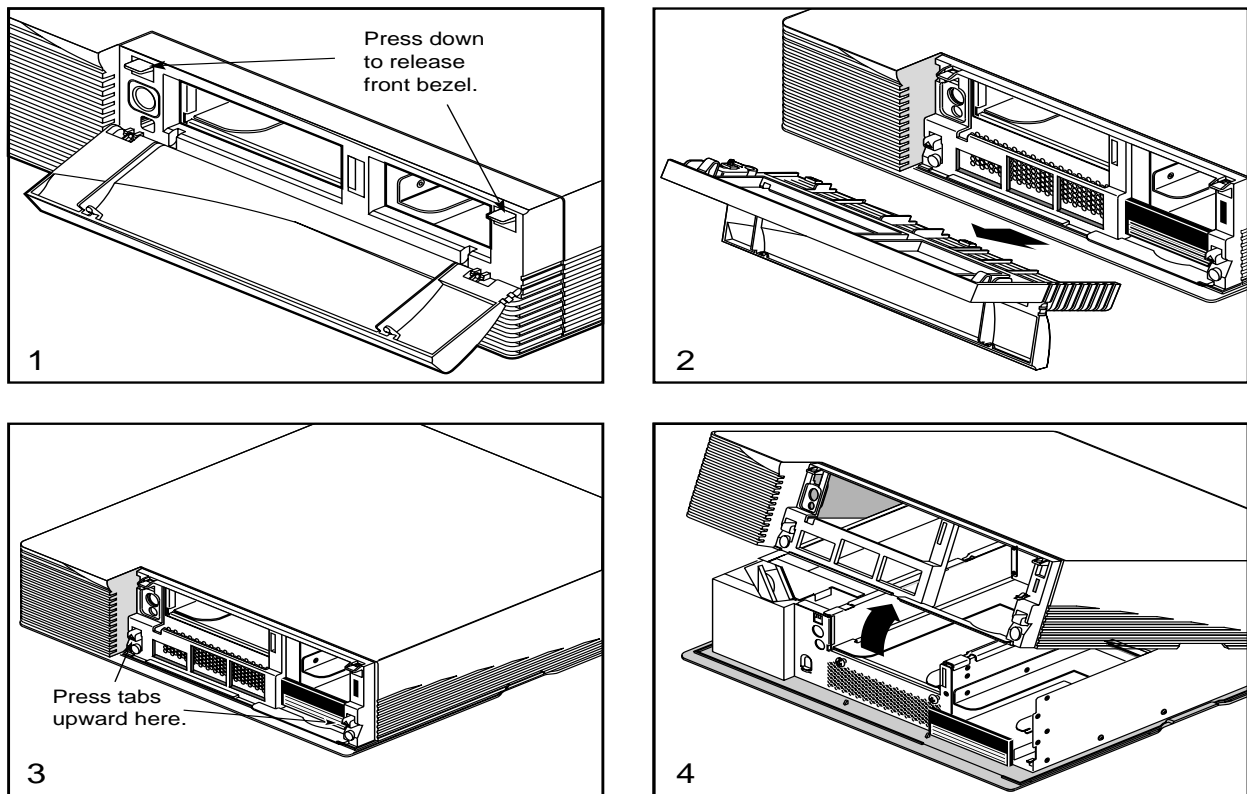

Figure 2-2 Removing the Covers
3. Press down on the tabs and remove the front bezel (see Figure 2-2).